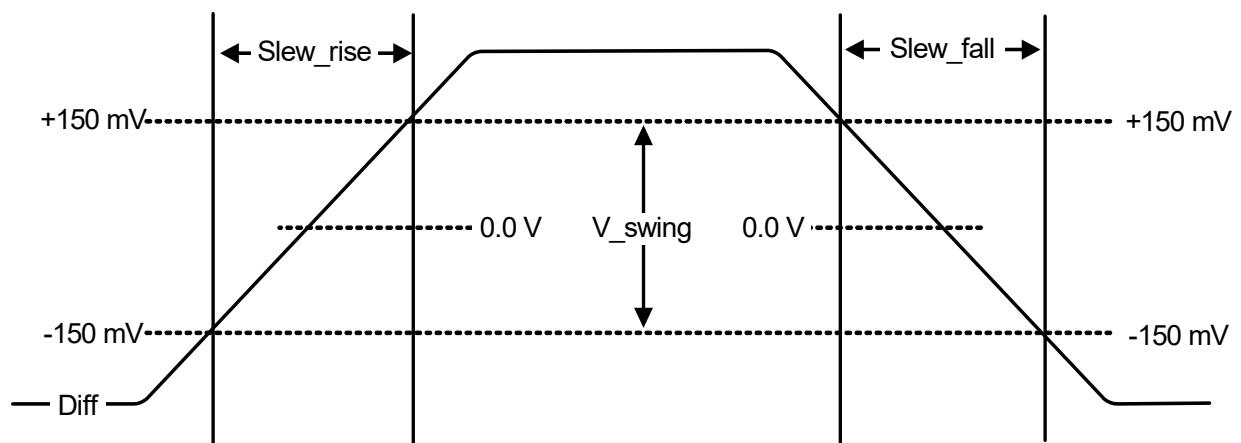

Figure 3. Measurement Points for Rise Time and Fall Time
17. Vcross(rel) Min and Max are derived using the following, Vcross(rel) Min = $0.250 + 0.5 (V_{havg} - 0.700)$, Vcross(rel) Max = $0.550 - 0.5 (0.700 - V_{havg})$, (see Figures 3–4 for further clarification).